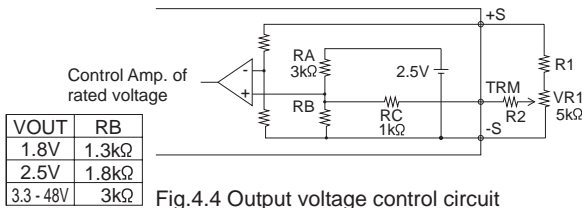

Fig.4.4 Output voltage control circuit
- By connecting the external potentiometer(VR1) and resistors(R1, R2), output voltage becomes adjustable, as shown in Fig.4.4, recommended external parts are shown in Table 4.2.